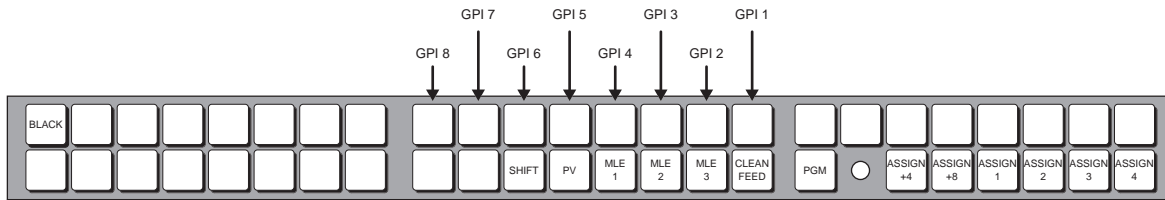

Figure 14.9 GPI Testing
- Press the GPI buttons on the CCU joystick. The crosspoint button that corresponds to the GPI (**Figure 14.9**) will light up, indicating that the GPI has been shorted to ground.